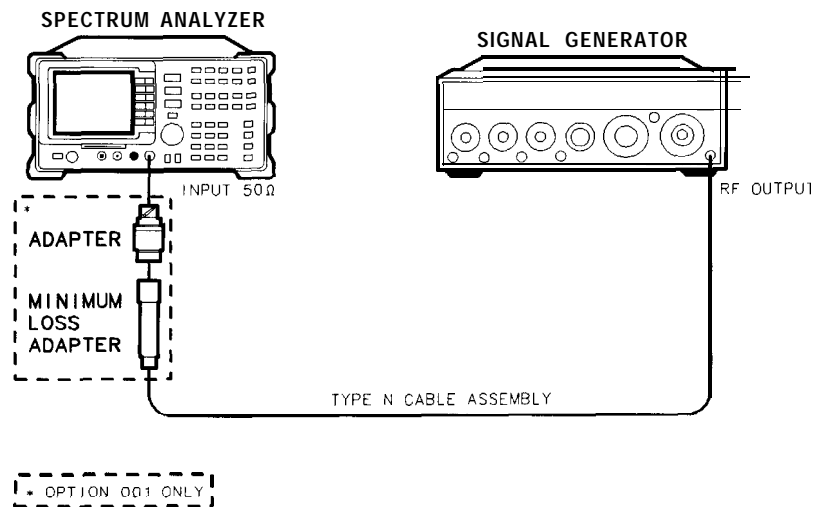

Figure 1-7. Residual FM Test Setup
1. Connect the equipment as shown in Figure 1-7.